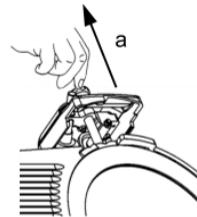

Fig. 34
- To clean the sharpening elements proceed in the following way (figs. 34, 35):
- Pull up (b) the lower part of the sharpener (2) and remove it. The button (1) must fit the wider slot of the lower part (2);